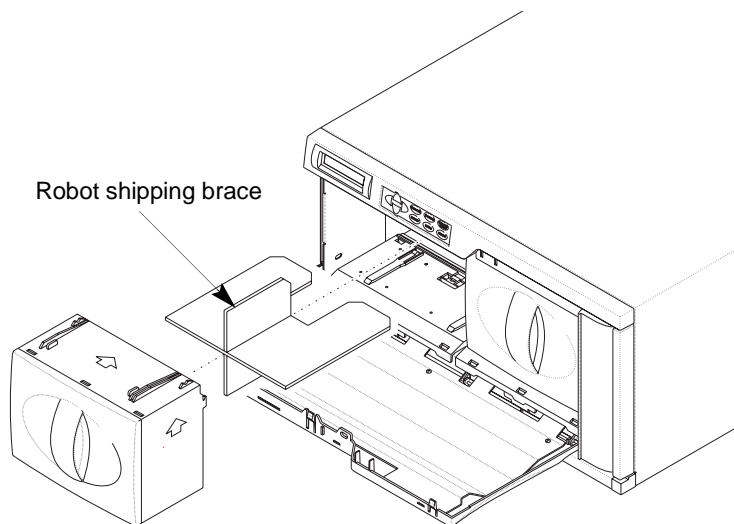

Figure 9-3 *Installing the robot shipping brace in the magazine*
- b. Place the robot's shipping brace inside the magazine so it is centered vertically and horizontally, as shown in Figure 9-3.